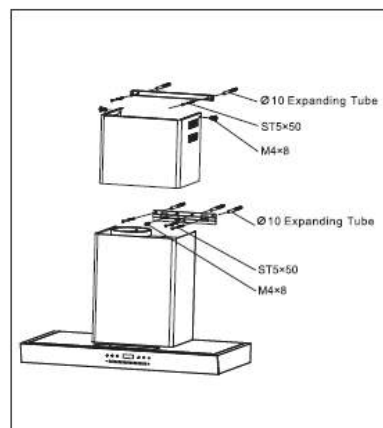

Fig. 8
- Fix the inner duct to both mounting bracket using 2 (two) M4 x 8 screws provided (Fig. 8).